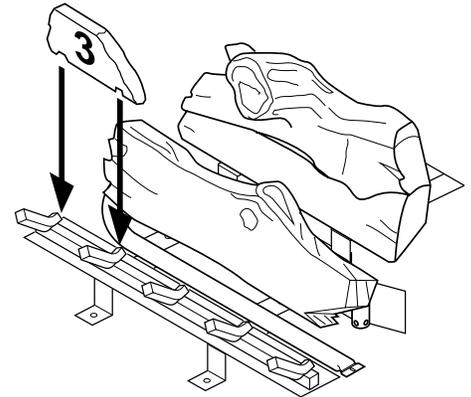

Figure 53 - Installing Log No. 3
3. Place log #3 (left log) onto the rear and front logs. Make sure it is seated properly into the notch on the front log and over the raised triangular portion of the rear log as shown in Figure 53.